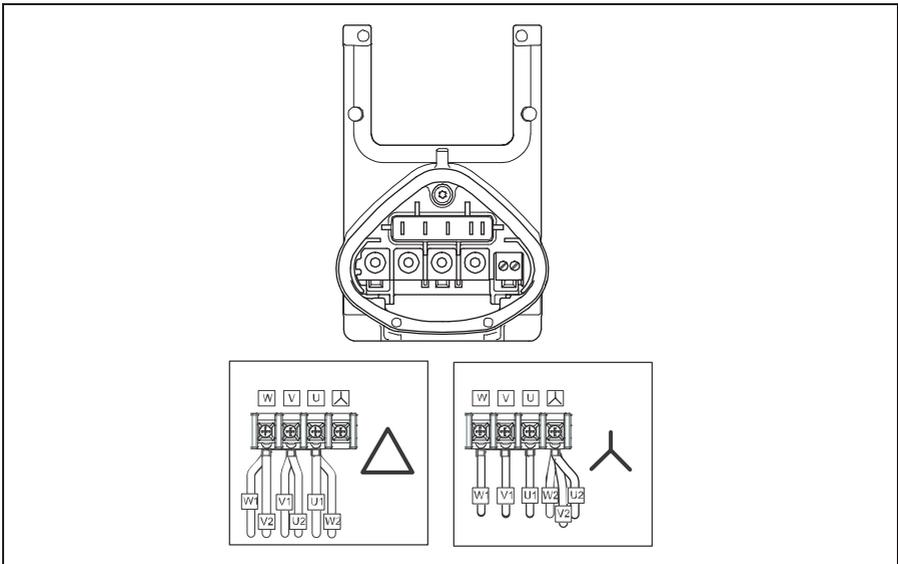

Fig. 4: Star or triangle connection for drive controls integrated in the motor
The supplied assembly material can be used to connect core end sleeves and cable shoes. Fig. 4 shows the different connection options.
8. Attach the engine wires in the correct circuit, see also Fig. 4. (torque: 3,0 Nm).